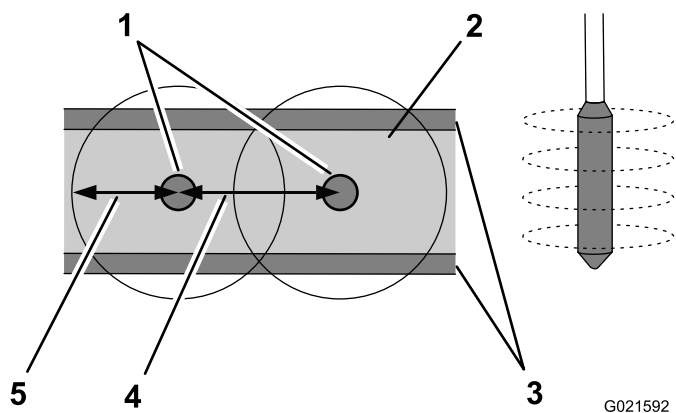

Figure 19
7. Insert the vibrator at a distance 1.5 times the radius of influence away from the last insertion point, and repeat the procedure (Figure 19).